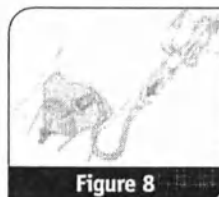

Figure 8
11. Attach primed EZ-Connect® extension set to catheter hub's luer lock. (See Figure 8)